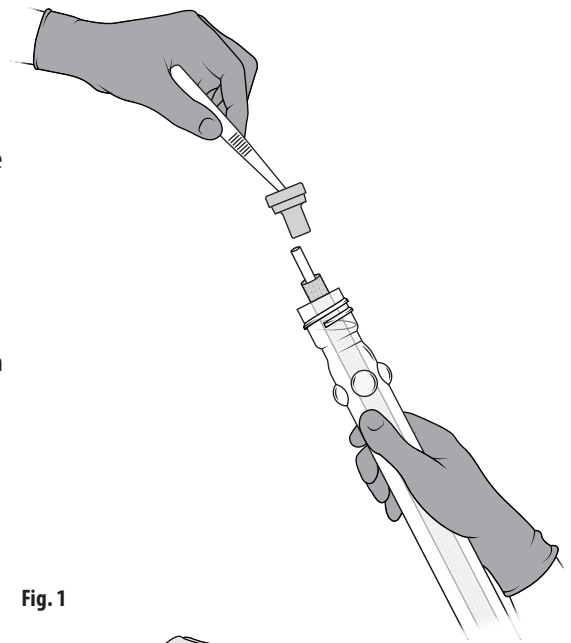

Fig. 1
3. Remove the cap and discard. Remove the stopper with forceps and discard. The forceps must also be discarded as they are now considered non-sterile. Fig. 1.